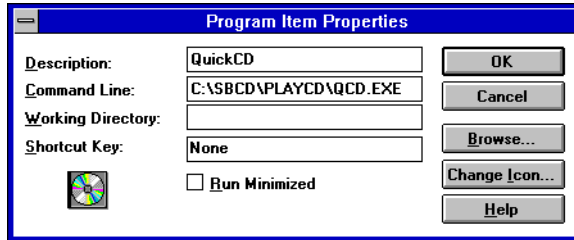

Figure 3-3: The Program Item Properties dialog box.
The Program Item Properties dialog box similar to Figure 3-3 appears.
4. Type in the description as shown in Figure 3-3.